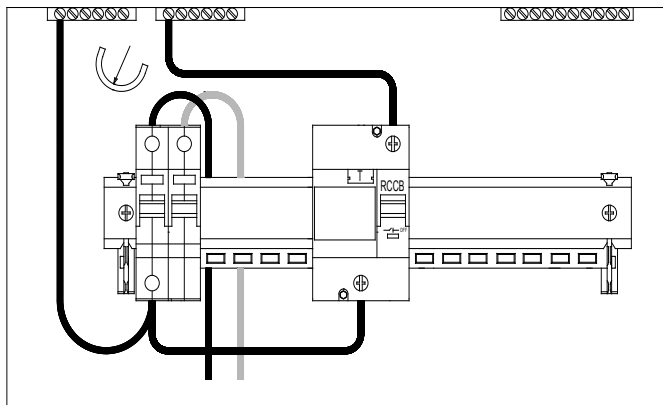

Fig 5.2
Note: Split-load, multi-tariff, dual RCCB and High Integrity busbars have a red insert between the sections of the busbar, this gives a clear indication of the modular split. Connectors are supplied where required for RCCB connection. (See Fig 5.2)
- Units with 2 neutral bars (Fig 5.2)** Remove the solid neutral links from between the neutral bars.
- Connect the neutral cables supplied with the split-load busbar to the appropriate terminals as shown. (Fig 5.2 or 5.3)